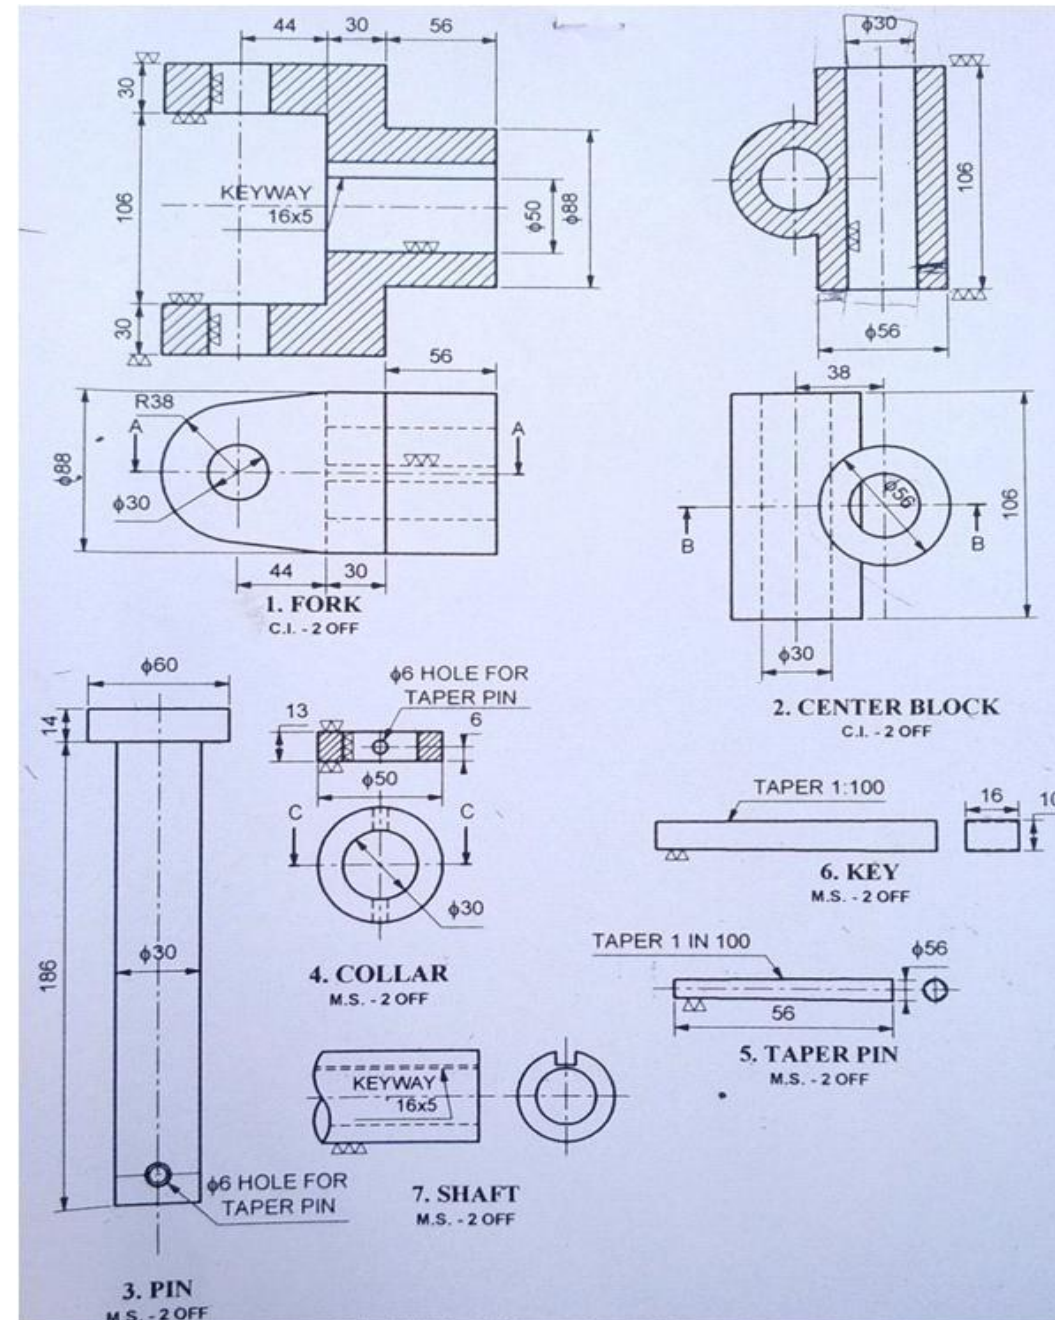

Figure 5.
1. Figure 5. Shows the details of universal coupling. Draw the following views of the assembly. (a) front view sectional (b) top view outside (c) prepare bill of material